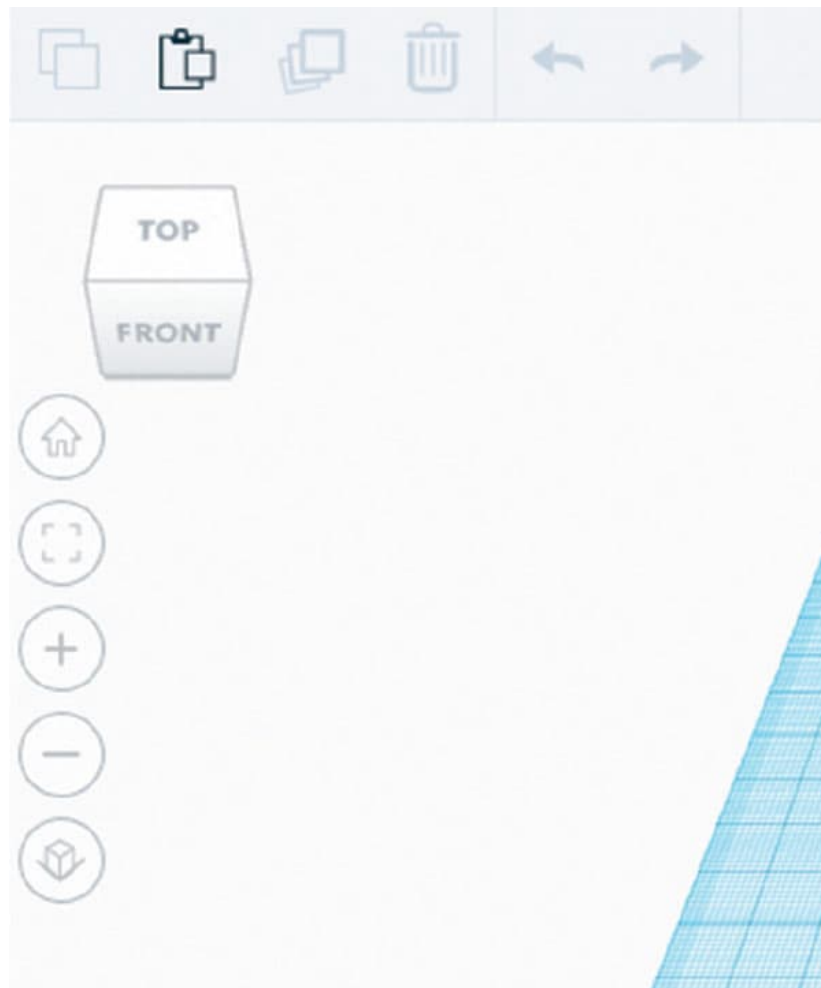

FIG. 3: Along the left side are the **Zoom**, **Top View**, **Front View**, and **Home View** tools which control the view size and angle.
- The left side of the page has the workplane viewing tools: **Zoom**, **Top View**, **Front View**, and **Home View**. See fig. 3 for details. Click on the views to explore.